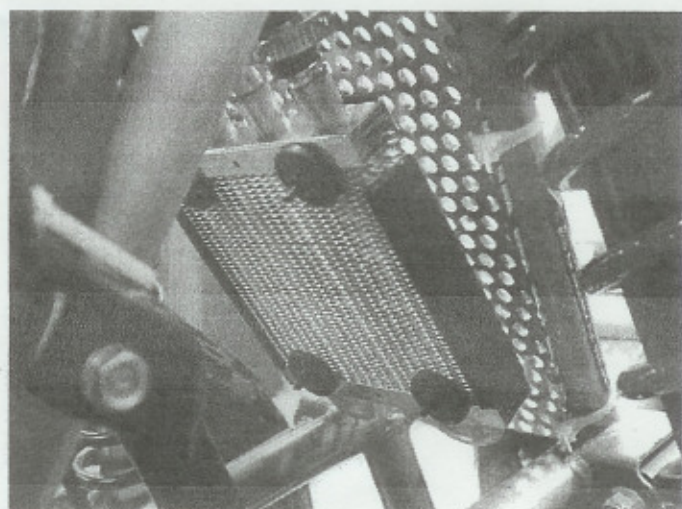

FIG. 9
- Hold the cooler against aluminum grill with the outlets facing upward and the shock pads facing toward the grill. Line it up until you're satisfied with its location and then insert the cooler mounting ties through the grill, shock pads and cooler, pull tight and secure with the backing plates (Fig. 9). Cut off excess.